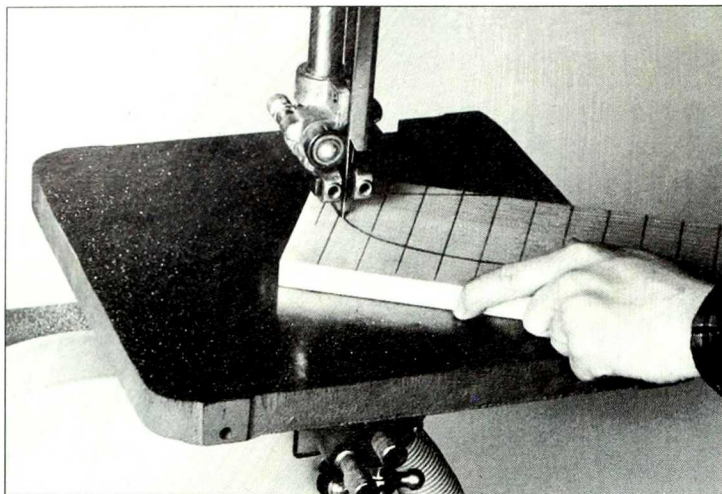
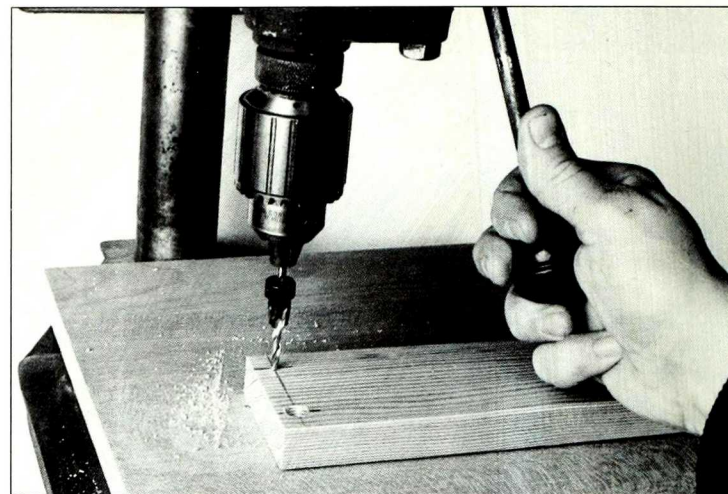

Figure 1: Use a band saw or jig saw to cut the curved pieces.
Figure 2: A drill with a countersink bit helps make consistent holes when drilling the slats. Use a drill guide or a drill press.
- Rip the boards and then crosscut all the parts to length according to the plan and cutting list. With a jig saw or band saw, cut all the curved pieces (Figure 1). Use a 1-inch grid of pencil lines to transfer the pattern (see page 24).
- Drill holes in all the parts that need them, except for the holes in the seat supports (A) where they attach to the legs (C). In each seat slat (E), drill two holes $\frac{1}{2}$ inch from each end (see the plan on page 25).
- A combination drill and countersink, used in a drill press or drill guide, will enable you to make quick and consistent holes on the slats (Figure 2).